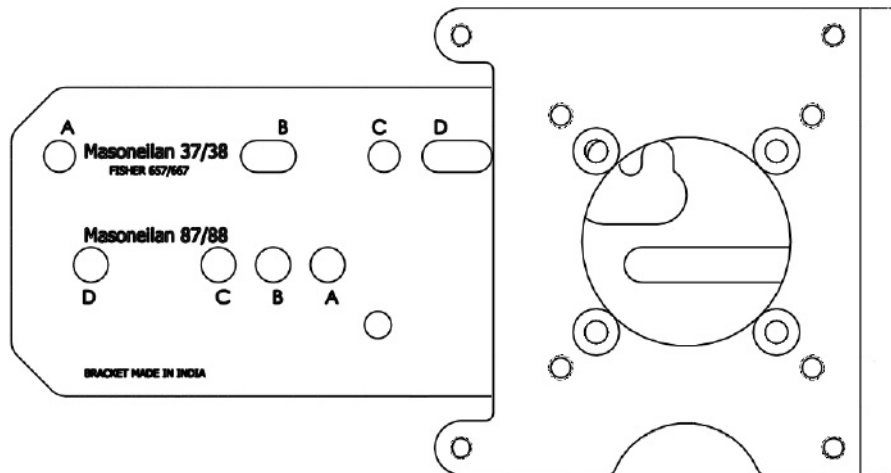

Figure 9 Reciprocating Valve Mounting Bracket
2. Mount the SVI II AP reciprocating mounting bracket to the actuator using two (2) 5/16 - 18 UNC cap screws. The mounting location of the bracket depends on the size and stroke of the actuator. Refer to Figure 9 on page 19 and Figure 3 on page 19.
11. Adjust the turnbuckle until the hole in the SVI II AP lever is aligned with the indicating hole in the bracket. Tighten both turnbuckle lock nuts. (See Figure 9 on page 19.)